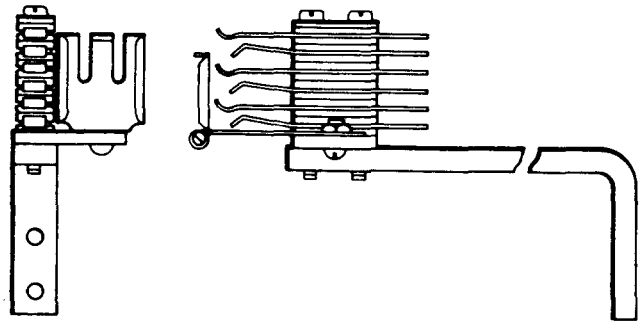

Fig. 13—384-Type Jack
**2.13 384A, B, and C:** These multicontact jacks (Fig. 13) each consist of a metal bracket, pileups of six contact springs, and number plate holders. Each spring pileup is arranged for a 240B plug. The terminals are arranged for mechanically wrapped connections. These jacks are intended for use on 161-type, 931A, 961D, 986-type, and similar mounting plates in dial systems.